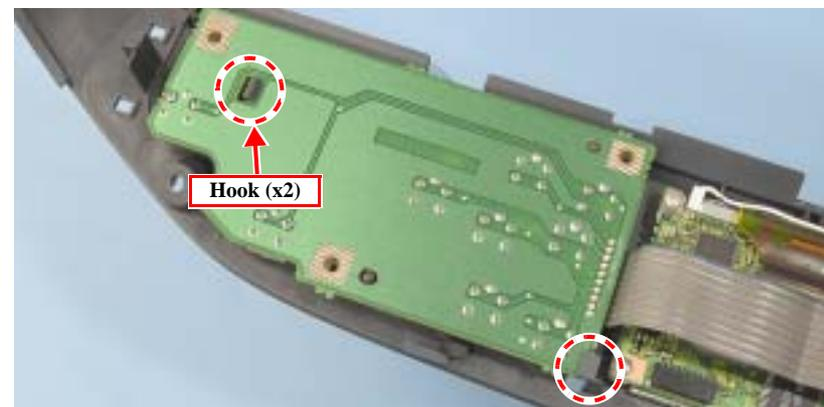

Figure 4-6. Removing the Panel Board
3. Release the hooks, and remove the Panel Board. (Fig. 4-6)